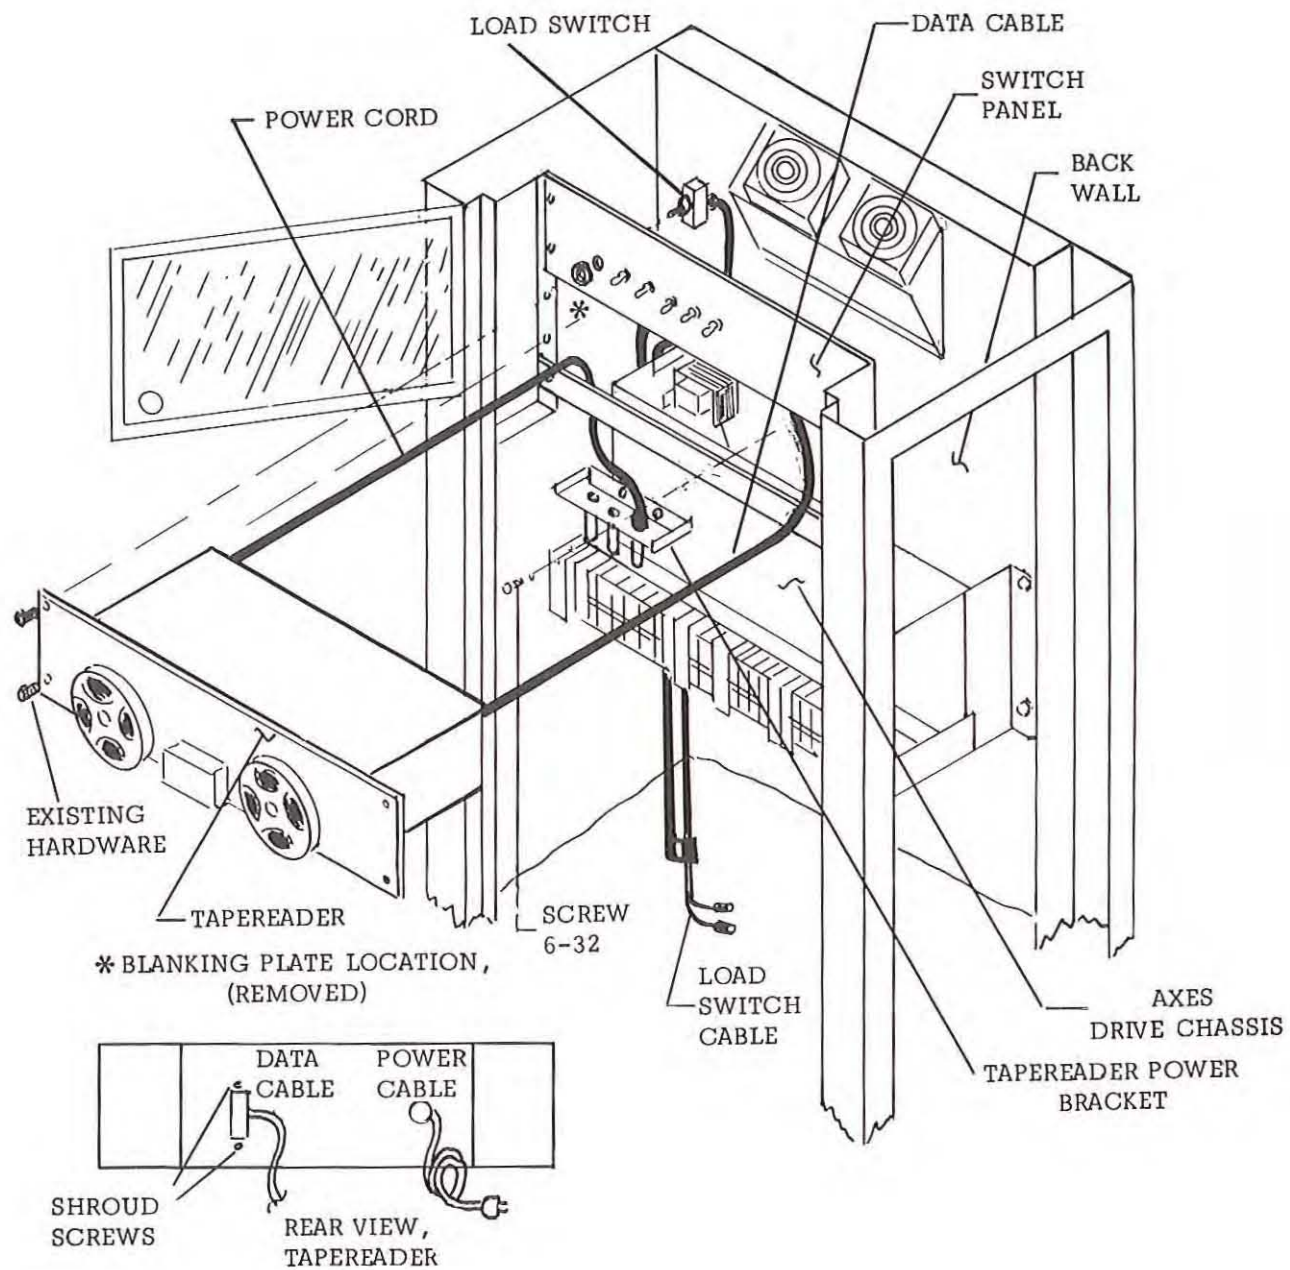

Figure 7-2. Tape Reader Installation
- c. Remove the tape reader reels, if any, and the four socket head bolts on the tape reader face plate. The face plate will tilt up slightly as the bolts are loosened. Grasp both reel spindles and with even force pull the tape reader towards you about 2/3 of the way out (approximately 6"). Now grasping both sides, remove the tape reader and place the rear end on the 2" ledge just below the lower mounting bolts. Holding the forward edge of the tape reader with one hand, reach in and unplug the power cord. The tape reader can now be completely removed. (Figure 7-2)
Ref. Figure 7-2.